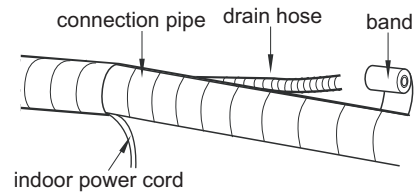

Fig.14
- 2.Reserve a certain length of drain hose and power cord for installation when binding them. When binding to a certain degree, separate the indoor power and then separate the drain hose. (As show in Fig.14)